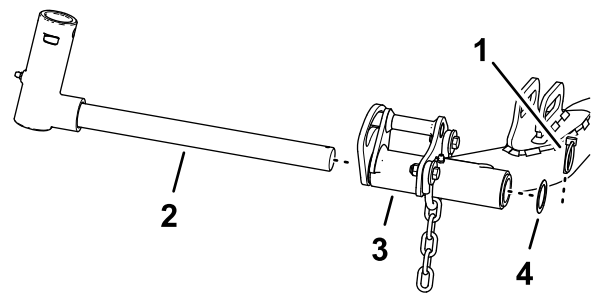

Figure 17
- Remove the lynch pin and washer securing the pivot yoke to the lift arm and slide the shaft out of the lift arm (Figure 17).